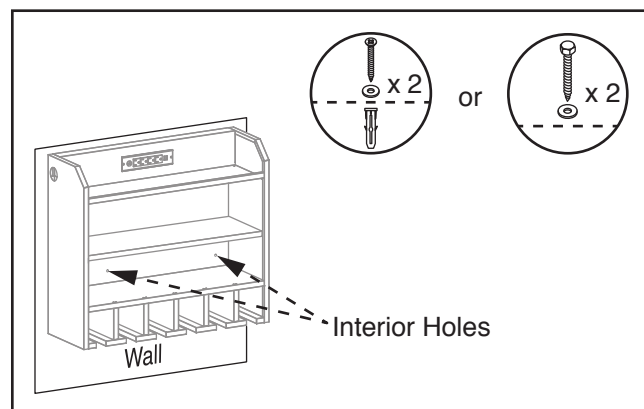

Figure 7. Positioning interior mounting locations.
6. Drill (2) pilot holes into wall through holes in station interior (see **Figure 7**).